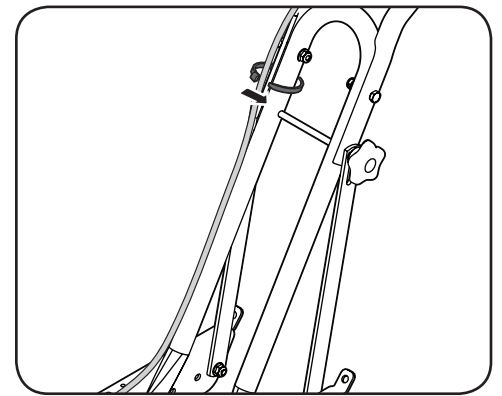

Figure 2-8
- Route the emergency stop control wire up the outside on the right side lower handle support and right side handle support bracket. Secure the wire to the handle and support with a cable tie, slightly above the support bracket. See Figure 2-8.